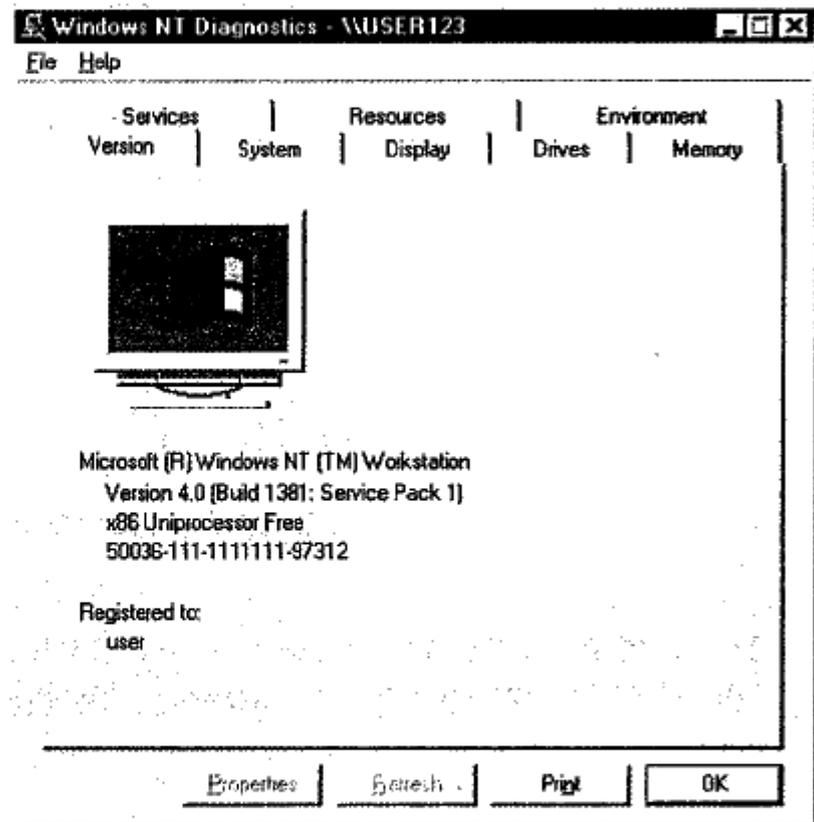

Figure 3-18
4.1 Click the "Start" button, select and click "Program/Administrative Tools/Windows NT Diagnostics" as shown in Figure 3-18.